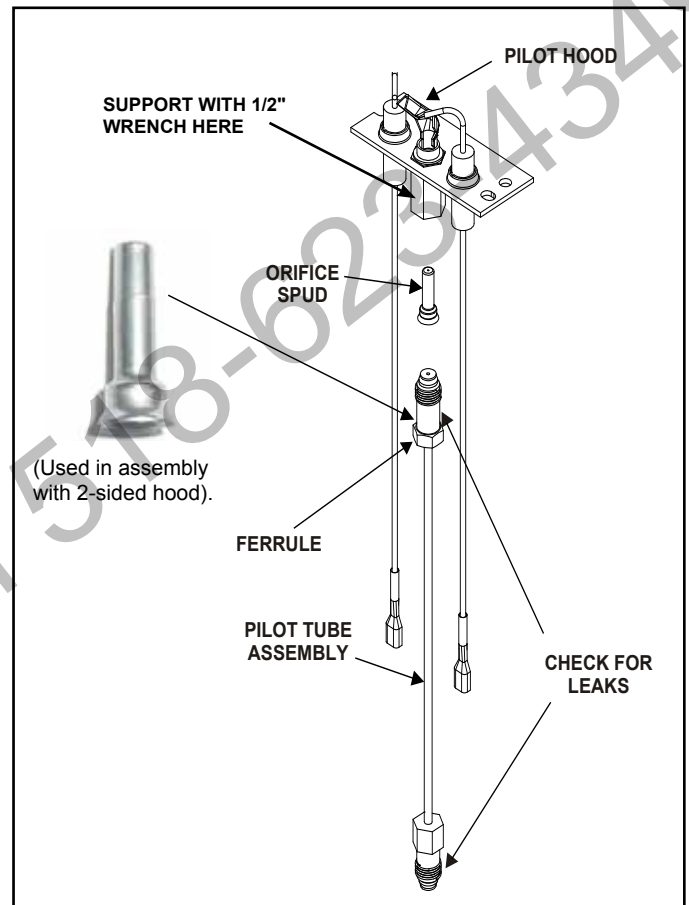

Figure 9 Pilot Assembly Detail
16. Remove the pilot assembly by removing the two (2) screws.
17. Locate the ferrule fitting located beneath the pilot assembly and with a 7/16 in. wrench, loosen the nut to remove the pilot tube. For better leverage, support the base of the pilot with a 1/2 in. wrench. See Figure 9. Remove the pilot spud and replace with the pilot spud fitting included in the kit. Insert the pilot tube into the ferrule fitting and tighten the nut to secure pilot tube to the pilot assembly.
24. Use a commercially available, non-corrosive leak check solution to test for leaks around the pilot. Be sure to rinse off all leak check solution following testing. See Figure 9 for leak check points. Extinguish the pilot. Turn fireplace OFF.